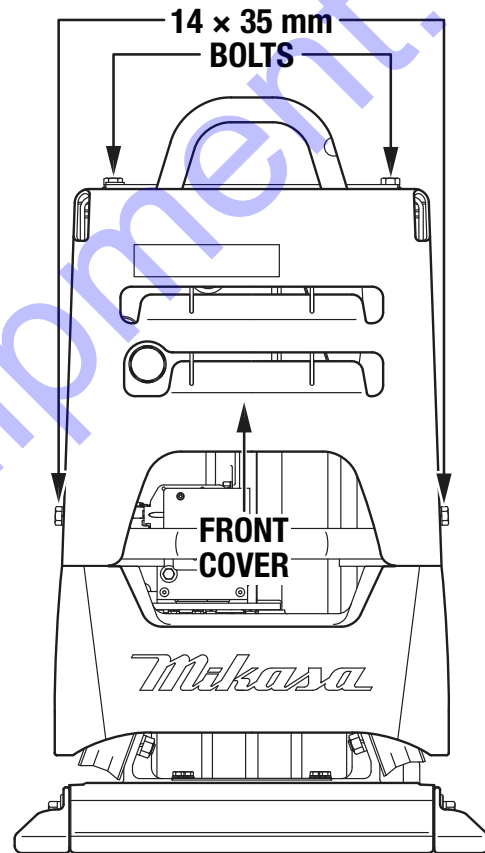

Figure 17. Front Cover Removal (MVH508DZ)
1. Remove and set aside the four 14 × 35 mm bolts securing the front cover to the compactor (Figure 17). Remove the front cover and set it aside.